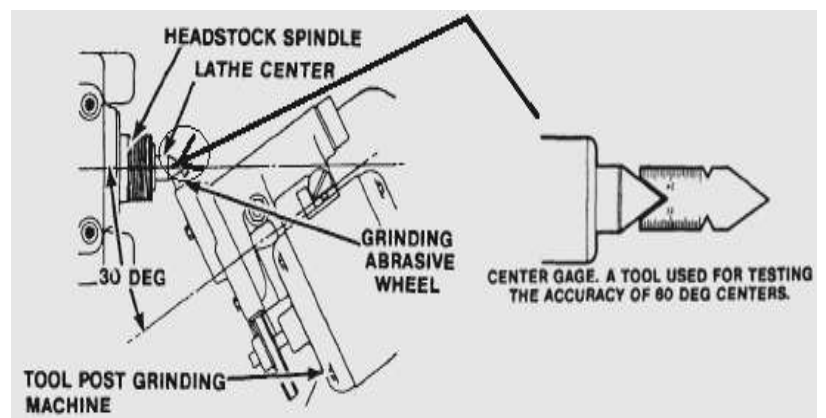

Figure 7-40. Checking a truing a 60-degree lathe center.
**Headstock and Tailstock Centers:** After mounting, the accuracy of the  $60^\circ$  point should be checked using a center gage or a dial indicator. If the center in the headstock is not at  $60^\circ$ , or is scarred and burred, it must be trued while inserted in the lathe headstock spindle. If the headstock center is a soft center (a center that is not heat-treated and hardened), it can be turned true with the lathe tool bit. If the center in the headstock is hardened, it must be ground with a tool post grinding machine to get a true surface (Figure 7-40).